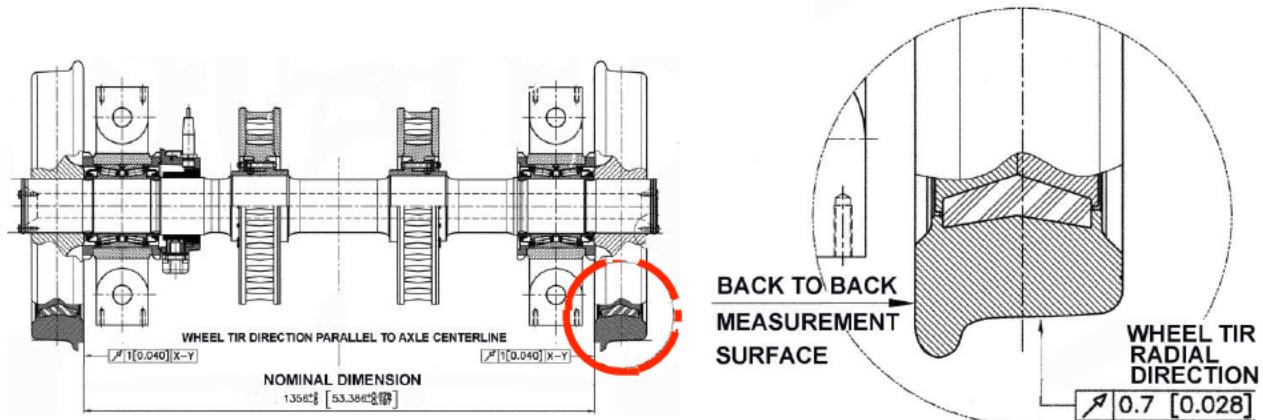

Figure 16 TRAILER TRUCK - WHEEL BACK TO BACK AND RUNOUT TOLERANCES
3. Check the Wheel Back to Back and Runout tolerance values according to the next Table 1 and Figure 16